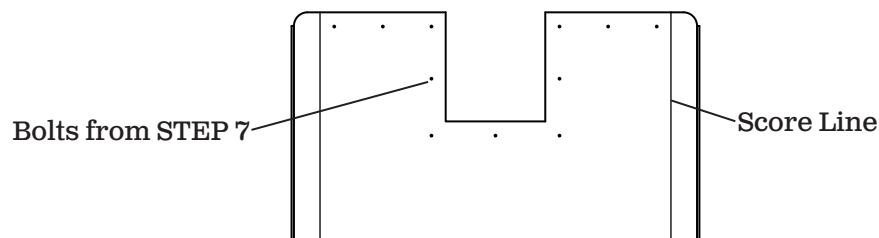

Figure 20
- 1) **Figure 20.** Must use a minimum of (10-12) 3/8" elevator bolts. Lay out and mark pattern for bolts across the bulkhead and behind the doghouse at a minimum of 6" apart making sure holes are NOT in cross members.